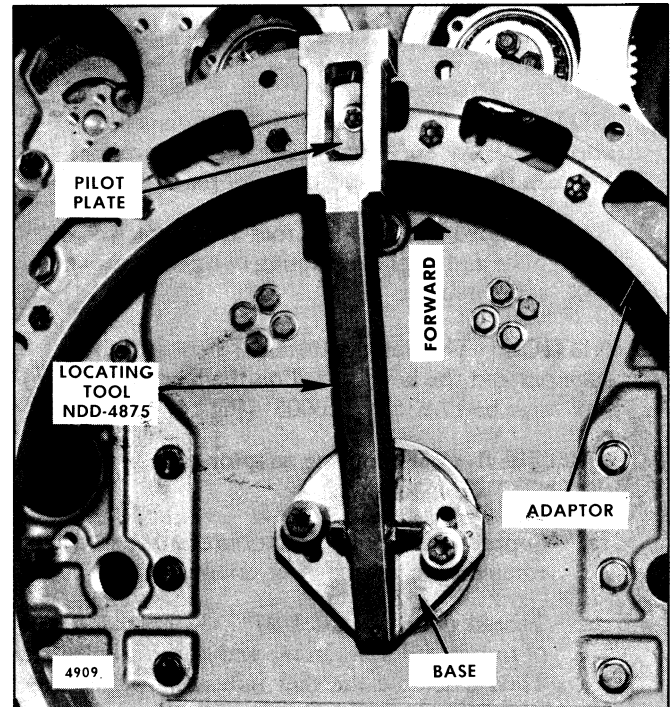

Fig. 2 - Locating Tool (NDD-4875) Positioned on Crankshaft and Flywheel Housing Adaptor (Former Adaptor)
4. On engines equipped with the former design adaptor, position the three pilot plates around the face of the adaptor (120° apart) and secure them loosely with 3/8"-16 bolts and washers. Use pilot plate locating tool NDD-4875 (Fig. 2) to adjust the pilot plates, as follows:
- a. Place the locating tool over the rear end of the crankshaft, with the outer end located in the adaptor pilot plate slots (Fig. 2), and secure it loosely to the crankshaft with two crankshaft bolts and spacers. Slide the tool forward so that the key located at the base of the tool is against the O.D. of the crankshaft. Then tighten the knurled knob at the front end of the base until the locating tool is tight on the end of the crankshaft. Tighten the two crankshaft bolts.